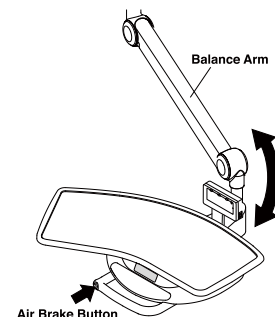

Fig.3-18 Balance Arm Air Brake
(6) Balance Arm Air Brake (Fig.3-18)